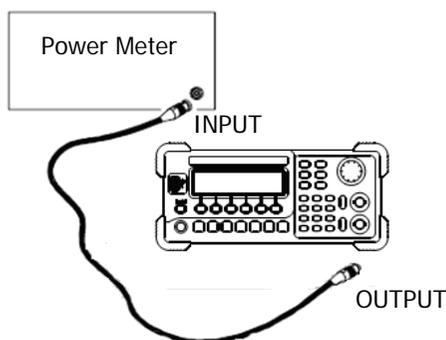

Figure 3-6 Output Flatness Adjustment Connection
1. Connect the power meter and the signal generator as shown in Figure 3-6. Set the output impedance of the signal generator to 50 Ω .